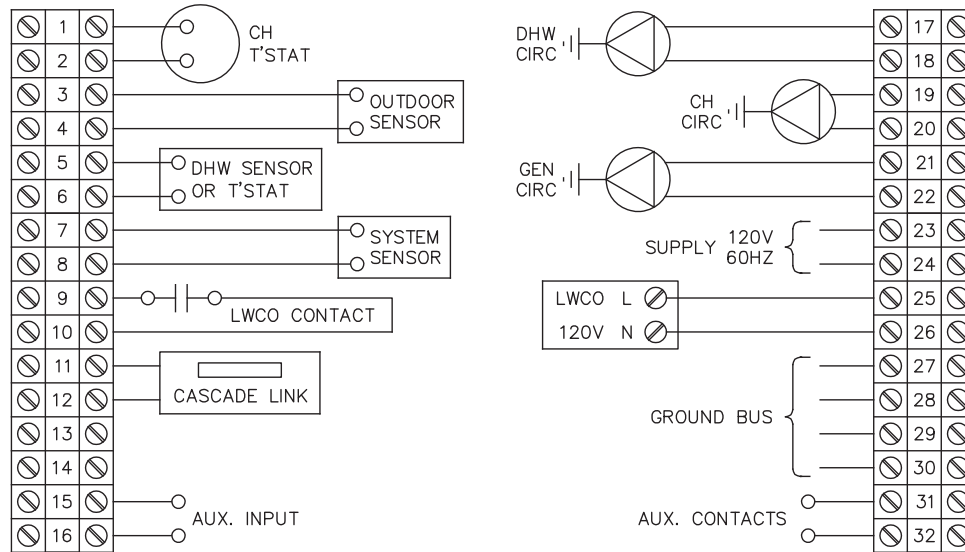

Figure 7.3: Customer Connections – PF-210 & PF-399
4. Figure 7.3 shows customer connections for the PF-210 and PF-399 boilers.